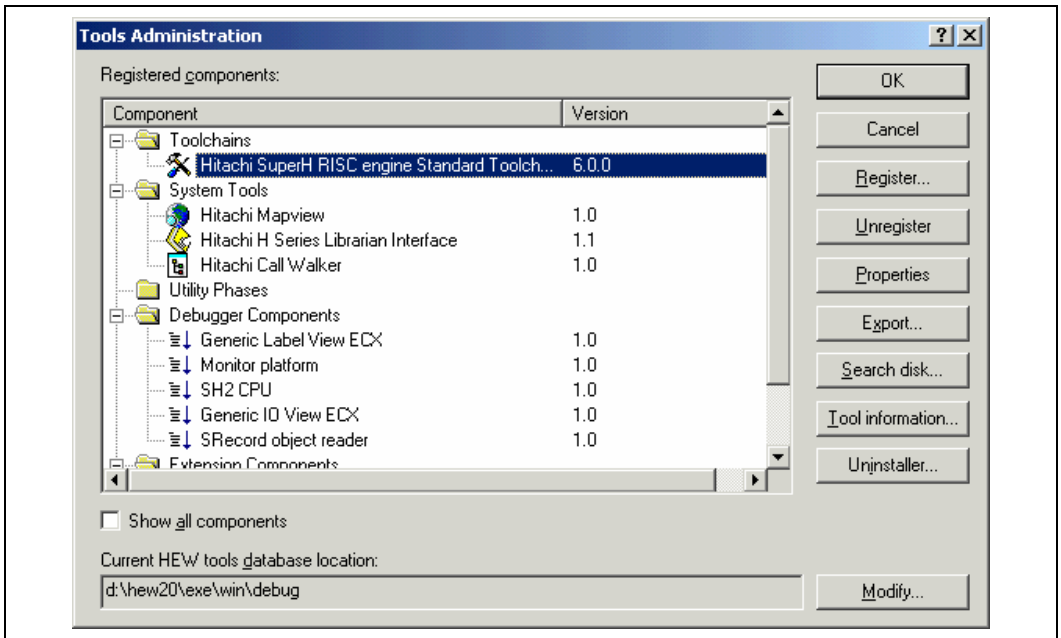
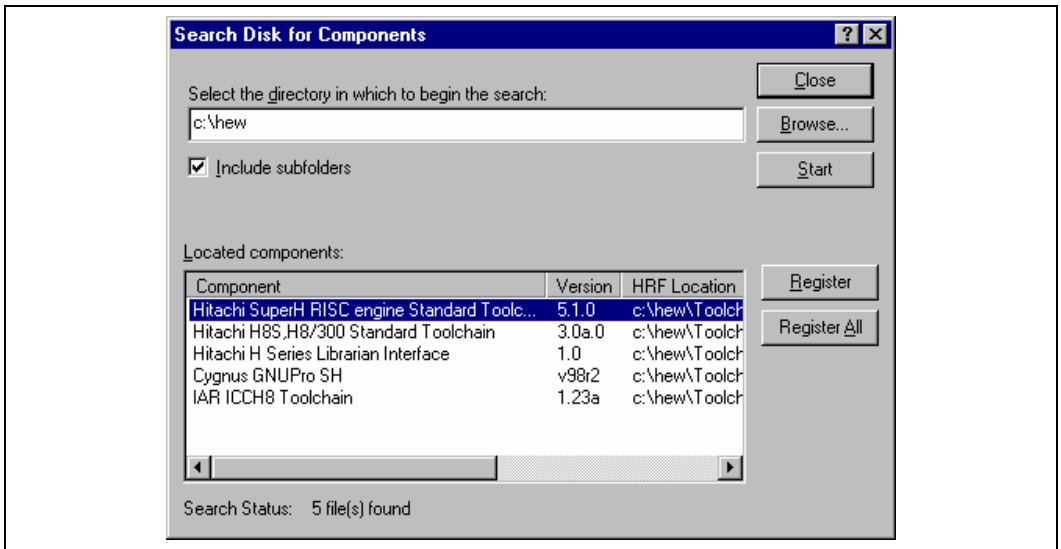

Figure 5.1: Tools Administration Dialog (Example)
Figure 5.3: Search Disk for Components Dialog
You control the components, which can be used by the Hitachi Embedded Workshop via the “Tools Administration” dialog (figure 5.1), which is invoked via [Tools->Administration ...]. Modification of the “Tools Administration” dialog box is only possible when no workspace is open, while only reference is possible when a workspace is open.
In order to use a component with HEW it must first be registered. The “Tools Administration” dialog (figure 5.1) shows all currently registered components. To access it, ensure no workspaces are open and then select [**Tools ->Administration...**]. If you attempt to access tools administration when there is a workspace open the tools administration dialog is opened but cannot be modified. When HEW is installed by default any new tools are automatically registered.
1. Click the “Search Disk...” button on the “Tools Administration” dialog (figure 5.1). The “Search Disk for Components” dialog will be displayed (figure 5.3).